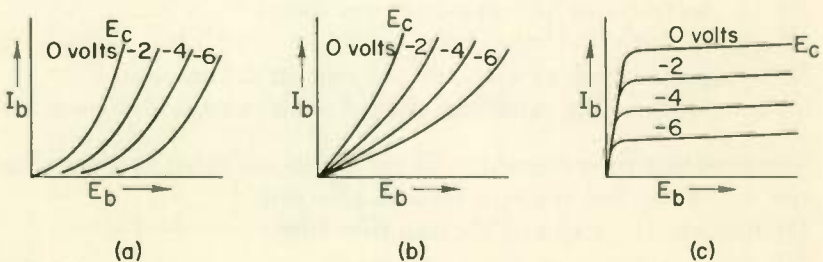

Fig. 28
- (1) a high amplification factor
- (2) a high transconductance
- (3) a high plate power dissipation rating
- (4) a low plate resistance
9. Refer to the three graphs in Fig. 28. Which graph indicates how the plate current varies with the plate voltage in a pentode if the grid bias remains constant?
- (1) a
- (2) b
- (3) c
10. Refer to the three graphs in Fig. 28. Which graph indicates how the plate current varies with the plate voltage in a triode if the grid bias remains constant?